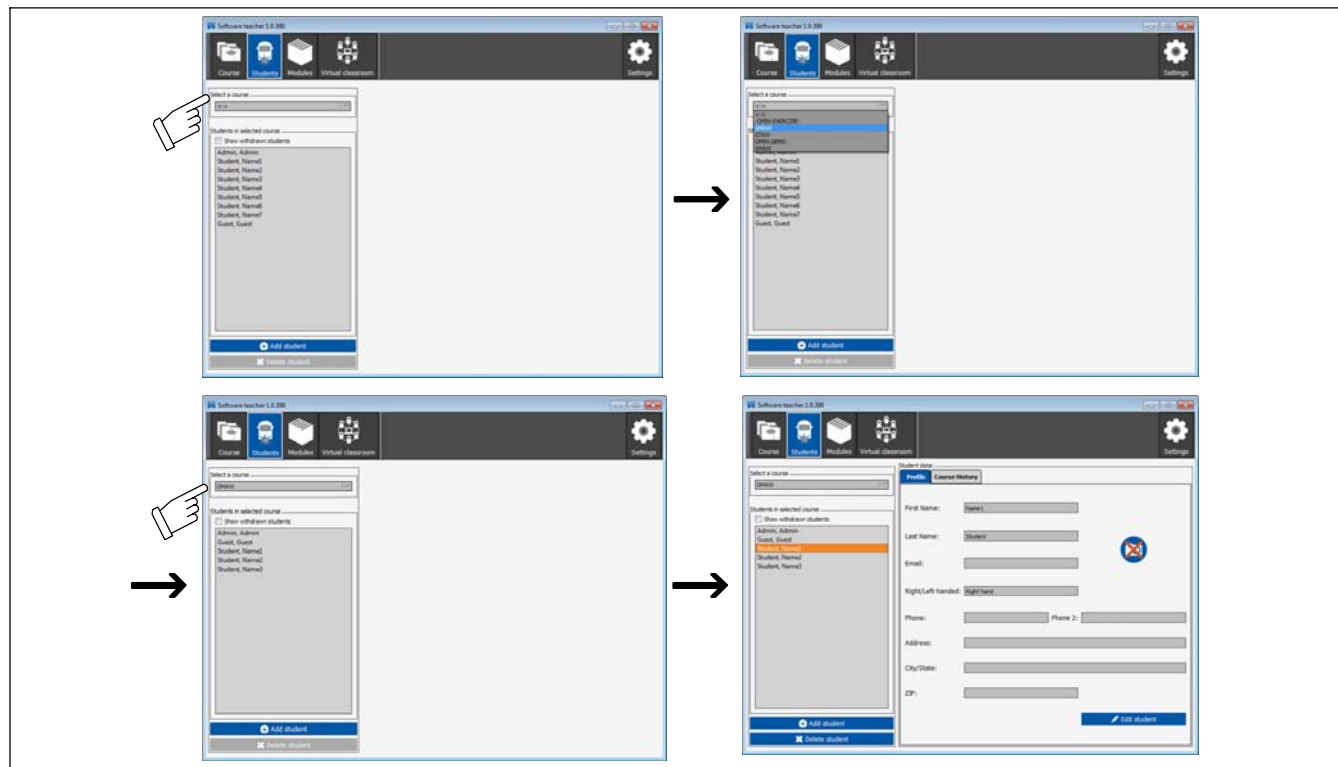

Figure 9-10. Student Home Page
A. Student Home Page (Figure 9-10)